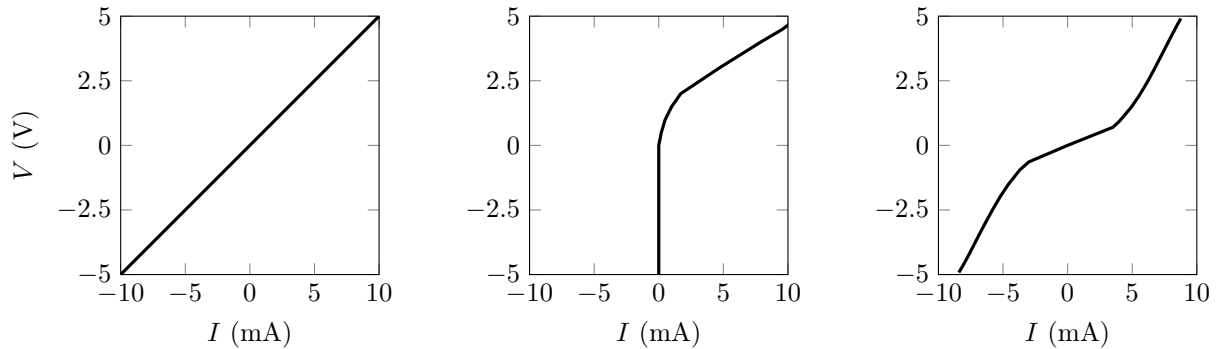

Figure 1.8: Voltage and current relationships for a resistor (left), a diode (center), and an incandescent lightbulb (right).
Current (symbol: I) is the rate of flow of electric charge in a circuit past a given point. It is measured in units of amperes (A). The relationship between current and voltage can give useful information about the contents of a circuit. Figure 1.8 shows the voltage and current relationships for a resistor (left), a diode (center), and an incandescent lightbulb (right).